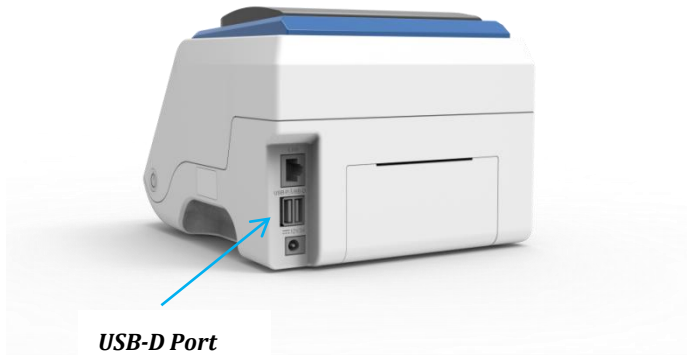

Figure 28
2. Connect one end of the cable to the computer and the other end to the ***USB-D Port*** on the device, as shown in **Figure 28**.